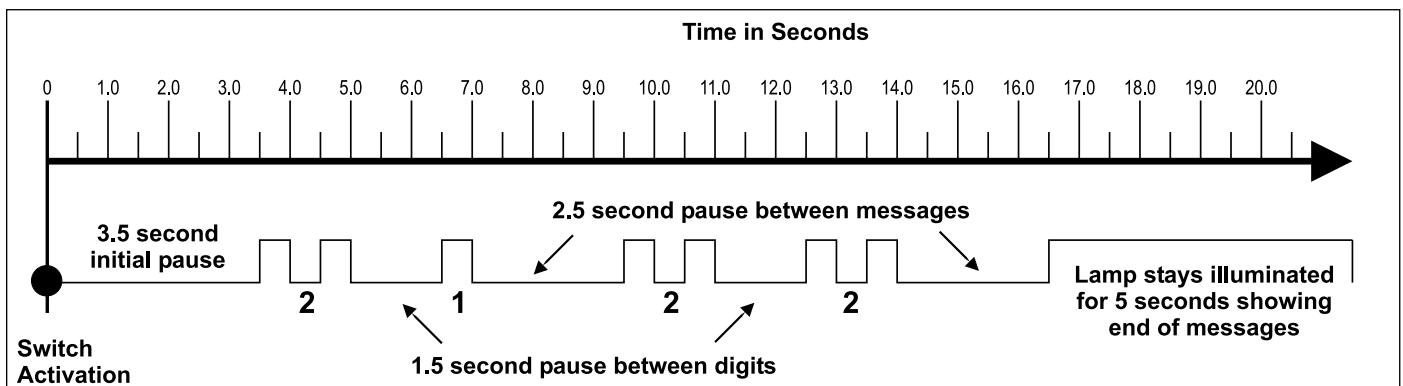

FIGURE 14 - EXAMPLE OF BLINK CODE MESSAGE
4. After a pause of 3.5 seconds, the ECU will begin responding with output information blinks. See *Figure 14* for an example.